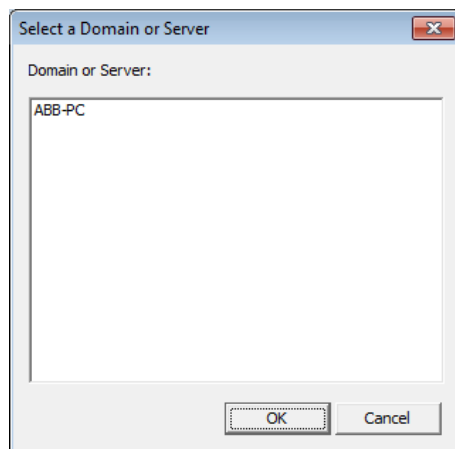

Figure 24. Select a Domain or Server Dialog Box
- h. A Select a Domain or Server dialog box similar to the one shown in Figure 24 appears. There will be one or more possible selections. Select the correct Domain or Server and click **OK** to return to the Browse for a User Account dialog box.